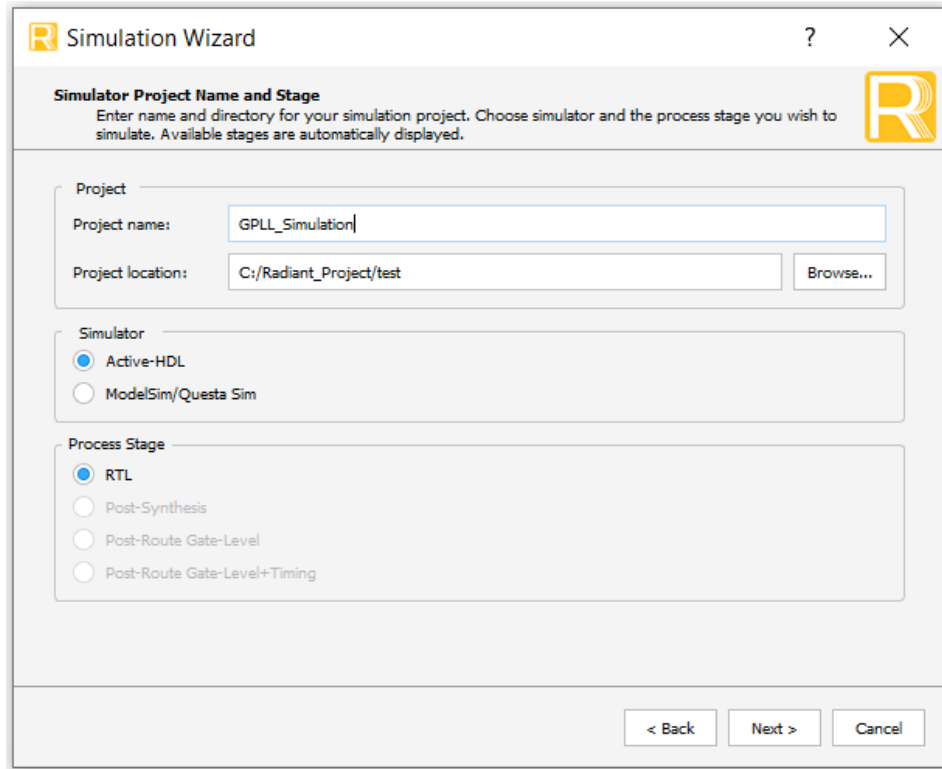

Figure 3.4. Simulation Wizard
- Click  button located on the **Toolbar** to initiate **Simulation Wizard**, as shown in Figure 3.4.